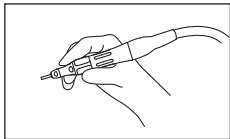

Fig. 6
- 2) Operate the handpiece at the chair-side for at least 20 seconds (Fig. 6). After the handpiece rotation has completely stopped, touch the handpiece head and Bur Lock Ring to confirm they are NOT heating abnormally.